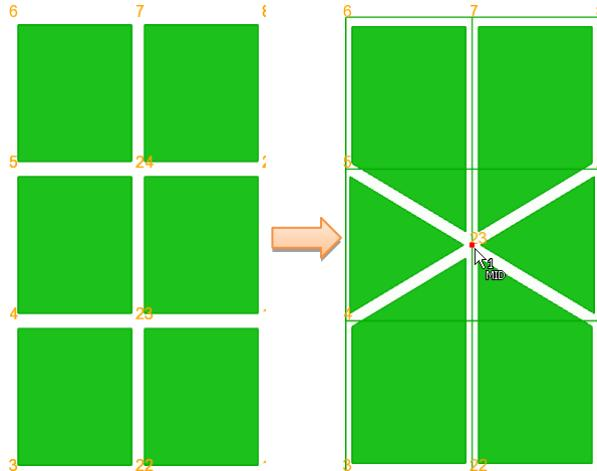

Figure 7-22 Collapse Edge collapses an edge of an element in the interior of the concept.
- 2) Collapsing an edge of an element in the interior of concept's mesh (edge not connected to boundary of the concept) as in Figure 7-22.